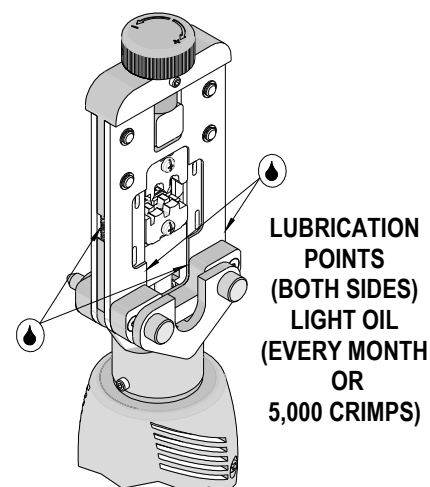

Figure 2-15
Use light oil, such as SAE 30 weight automotive oil, every 5,000 crimps, or monthly, will significantly enhance the tool life and ensure a stable calibration. Make certain all sliding surfaces in the tool head are protected with a thin coat of high quality machine oil. See Figure 2-15 for lubrication points. Do not oil excessively and wipe excess oil from the tool frame when complete.
2. Then install the crimp head onto the AT Power Adapter. This is a typical Type RHT Crimp Tooling Kit arrangement in AT Head. See Figure 2-15.